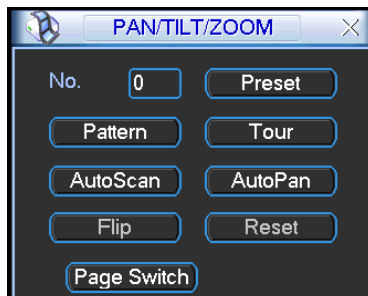

Figure 4-39
In Figure 4-35, click page switch button, the interface is shown as in Figure 4-39. Here you can activate the following functions:
- The following setups are usually operated in the Figure 4-35, Figure 4-38 and Figure 4-39,
In Figure 4-39, please input preset number in the No. blank, and click preset button.
In Figure 4-39, input mode value in the No. blank, and click pattern button.
In Figure 4-39, click “Auto Scan” button, the system begins auto scan. Correspondingly, the auto scan button becomes Stop button. Click stop button to terminate scan operation.
In Figure 4-39, click page switch button, you can see an interface is shown as below. See Figure 44 . Here you can set auxiliary function. The aux value has relation ship with the Aux button of the decoder.